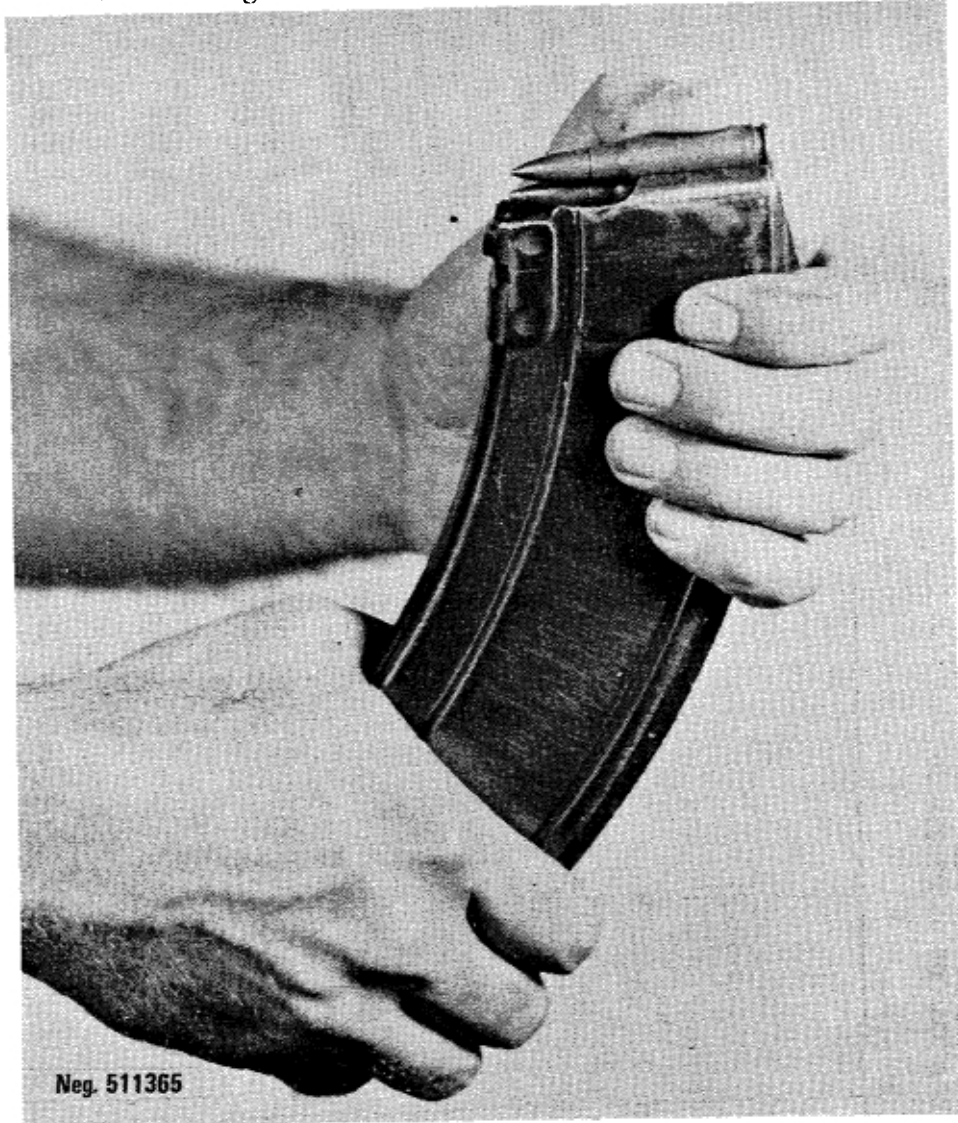

Figure 66. Loading the AK-47 magazine.
a. Load the AK-47 magazine by placing a cartridge on the magazine between the feed lips (fig 66) and pressing the cartridge down into the magazine. Repeat until the magazine is full (30 rounds; 20 in Yugoslav M64).